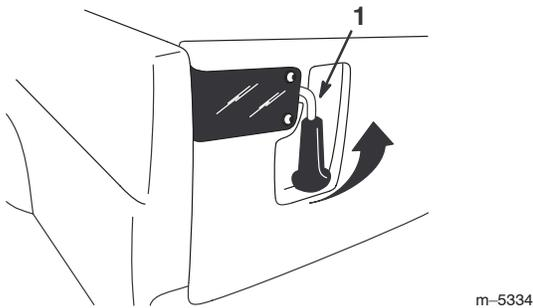

Figure 25
1. To open the tailgate latches, lift the latch handles up (Fig. 25). The latches will spring out toward the center of the tailgate. Slowly lower the tailgate.